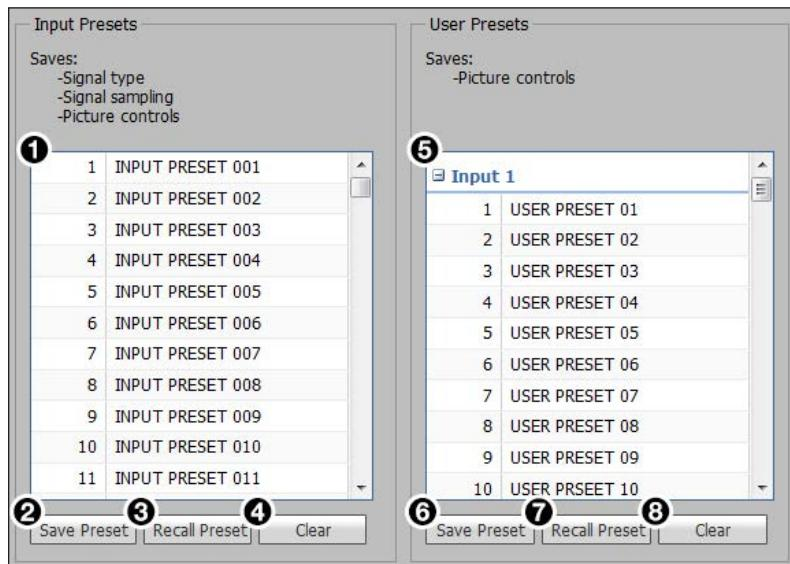

Figure 68. Input and User Presets Panels
1. From the Input Presets list (see **figure 68**, ① on the previous page) or the User Presets list (⑤), select the desired preset.
2. Click the **Save Preset** button (② or ⑥) in the same panel as the selected preset. If the selected preset already has stored information on it, the Presets dialog box opens. Click the **Overwrite** button to erase the previous data and save the new settings. Click the **Cancel** button to return to the Image Settings page.
1. Click and drag the drag points of the sample image (②) to resize the image within the designated space (defined by the black area in figure 68).
2. Click anywhere inside the sample image (see the blue rectangle with a circle inside in figure 68) and drag it anywhere within the designated space to reposition the image.